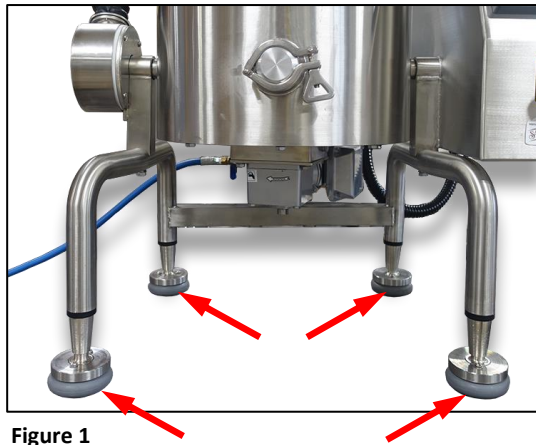

Figure 1
2. Place the machine on a solid, level surface. To ensure the cooker is level, place a level atop the cooker. If the cooker is not level, the machine's four feet (arrows) are individually adjustable and are used to level the machine, Fig. 1.